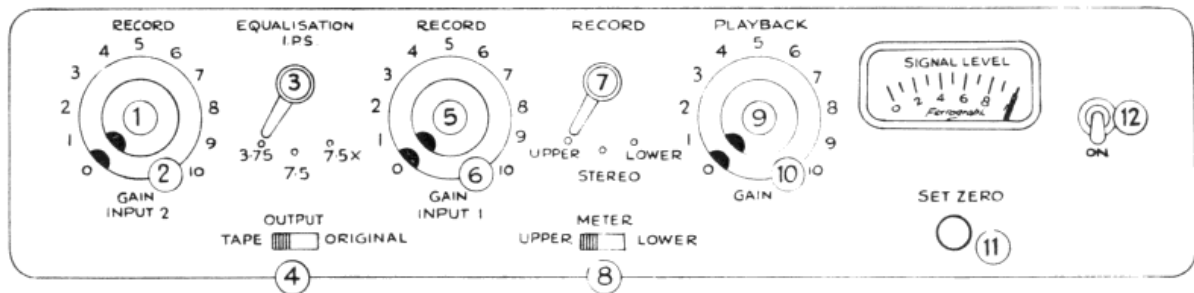

FIG. 3.
Instrument is energised by switch 12 (Fig. 3) on front panel, meter illumination will come on immediately.
Select the operating speed required, by the lever knob (B) on the tape deck, check that knob 3 on the front panel (Fig 3) is set to the same speed otherwise the starting button (C) will not "hold in" when pulled towards the bottom left hand corner of the control panel.